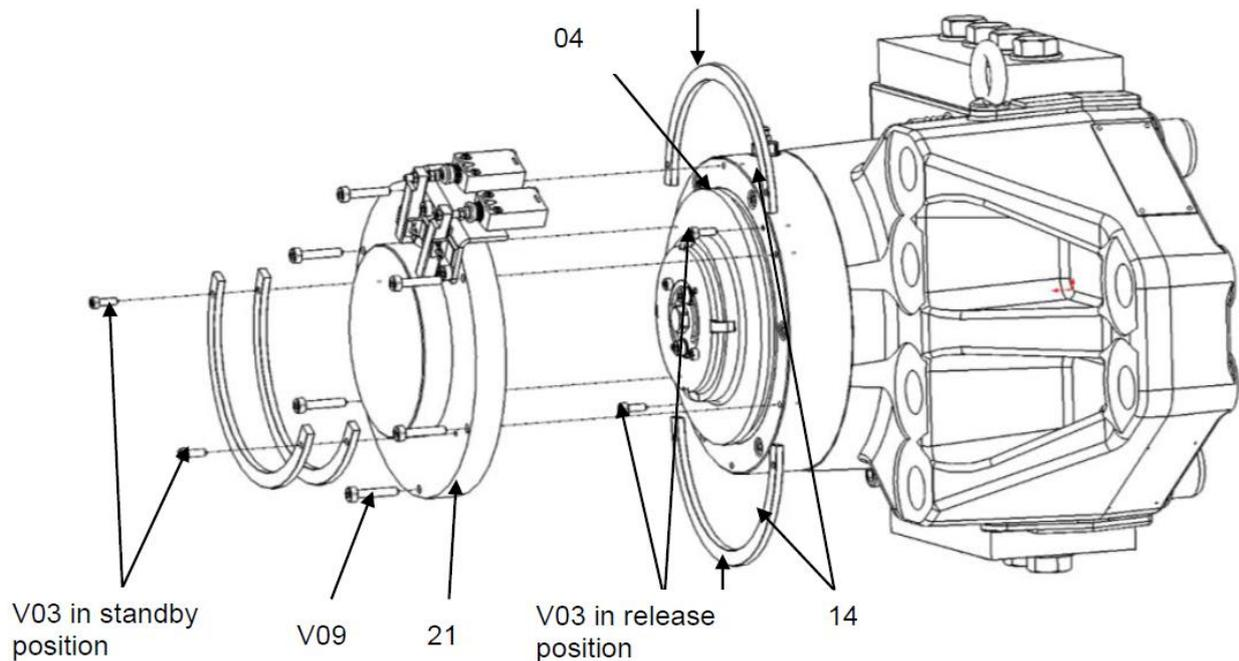
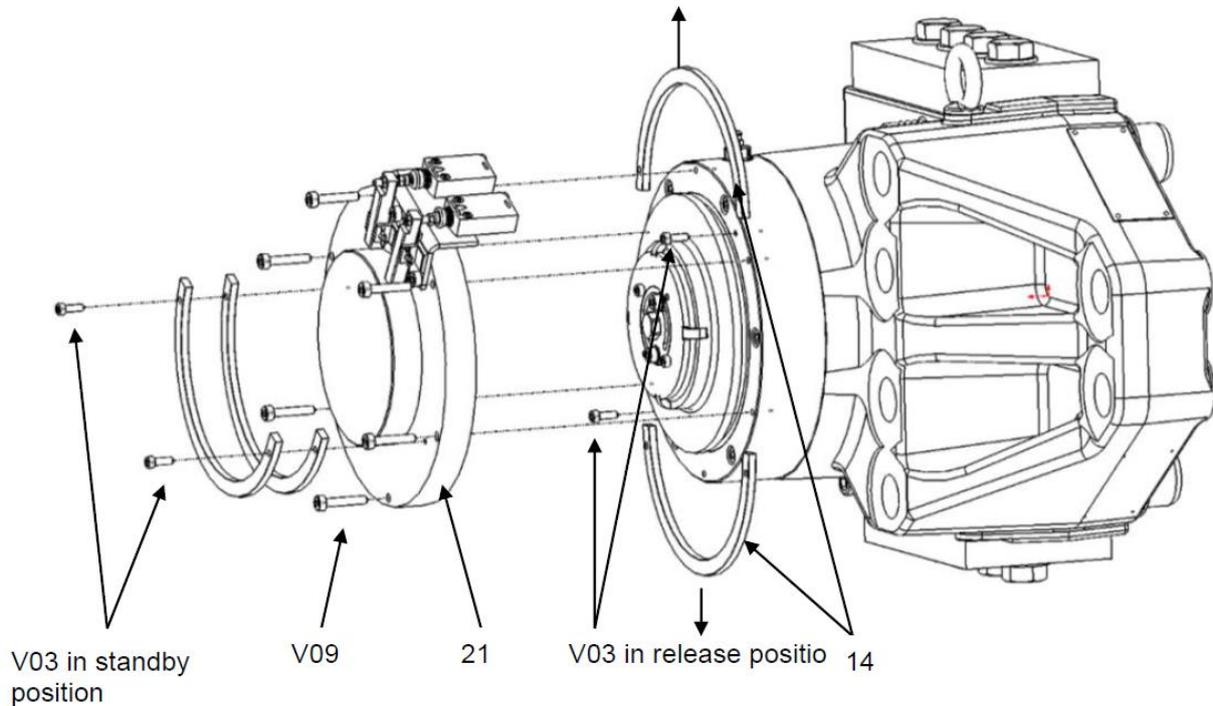

Fig.5.2
Fig. 5.3
5. Put the 2 retaining segments **14** in the piston groove **04** Fig. 5.2.
4. Remove the 2 retaining segments **14** Fig. 5.2 and install them in the standby position on the cover **21**, one on the other, using the 2 screws **V03**. See Fig.5.3.
5. Reinstall cover **21** and retighten 6 screws **V09** Fig.5.2 chapter 5.1.
2. Remove the cover **21** by its 6 screws **V09** Fig.5.2.